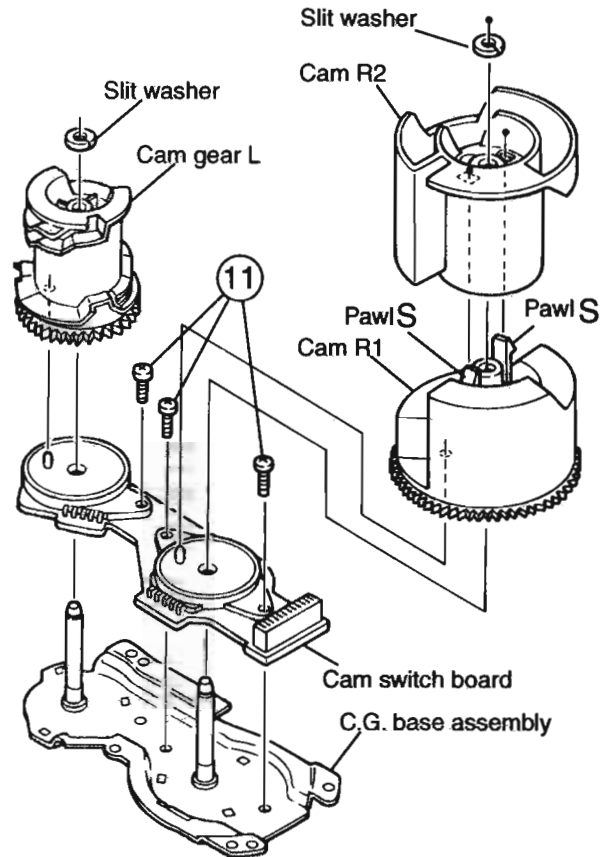

Fig.22
[Note] When the chassis assembly is turned over under the conditions wherein the gear bracket and belt have been removed, then the pulley gear as well as the gear, etc. constituting the gear unit can possibly be separated to pieces. In such a case, assemble these parts by referring to the assembly and configuration diagram in Fig. 22.
■ Removing the cams R1/R2 assembly and cam gear L(See Fig.22)
■ Removing the C.G. base assembly (See Fig.22 and 23)